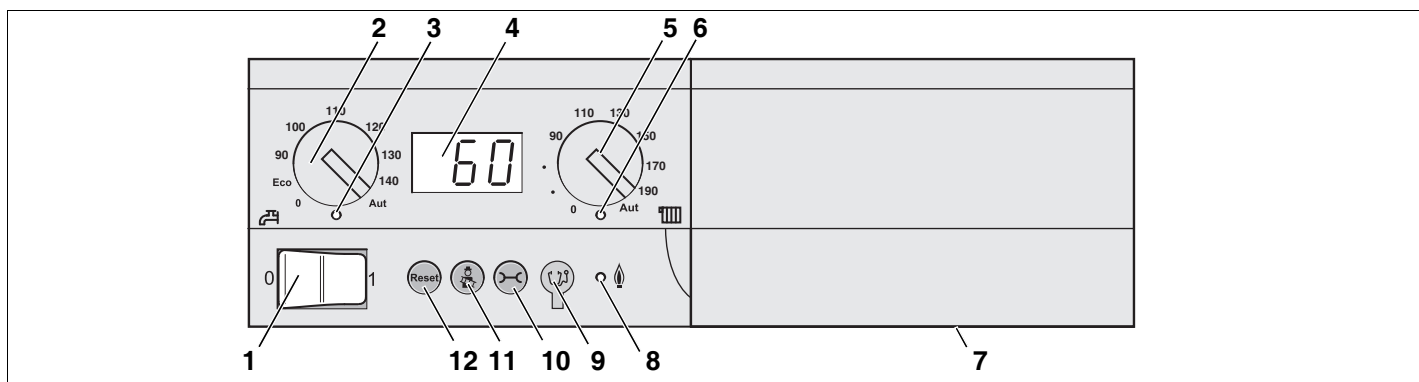

fig. 2 Basic Controller Logamatic BC10
The basic controller BC10 (see fig. 2) is located on the left side in the drawer.
The menu structure of the boiler can be viewed on the BC10 using the "Reset" (⊖), "Chimney sweep" (⚙️) and "Service" (⚙️) (see fig. 2, pos. 9, 10 and 11) buttons and the display indication (see fig. 2, pos. 4).
A display value or code is shown on the display of the BC 10 basic controller (see page 8, fig. 2).
If the display code is a fault code, this fault code either flashes (locked fault code) in the display or it is shown permanently (blocking fault code). A boiler reset is only necessary with a locking fault code (flashing) (see 8, fig. 2). The cause of the fault must be remedied first. The cause has to be remedied and the boiler resumes regular operation.